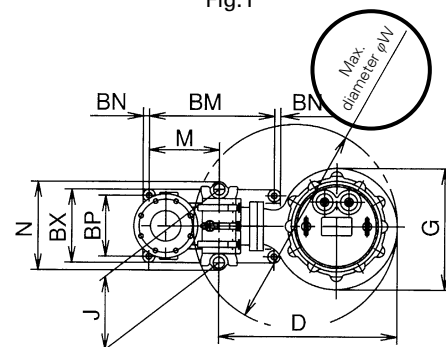

Fig. 2
13. In the case of drainage pumps with a detachable device, the dimensions (Max. diameter ϕW) required for taking out the pump section are shown in the assembly drawing. Install the necessary openings. (See Fig. 2.)